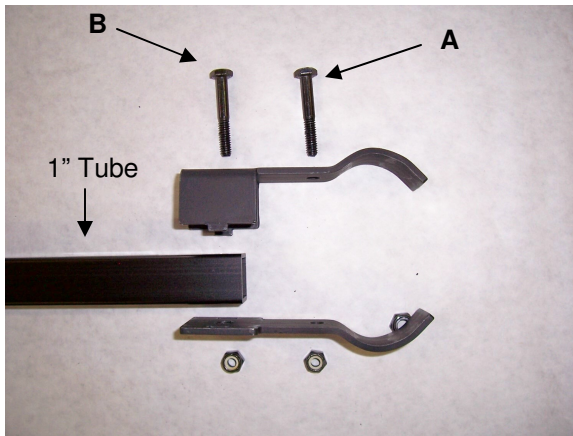

Fig. 1
2. Using a 1/4 x 1 3/4" bolt, attach two half clamps loosely to the 1" Sky Bar tube. (Use hole B) See Fig. 1.